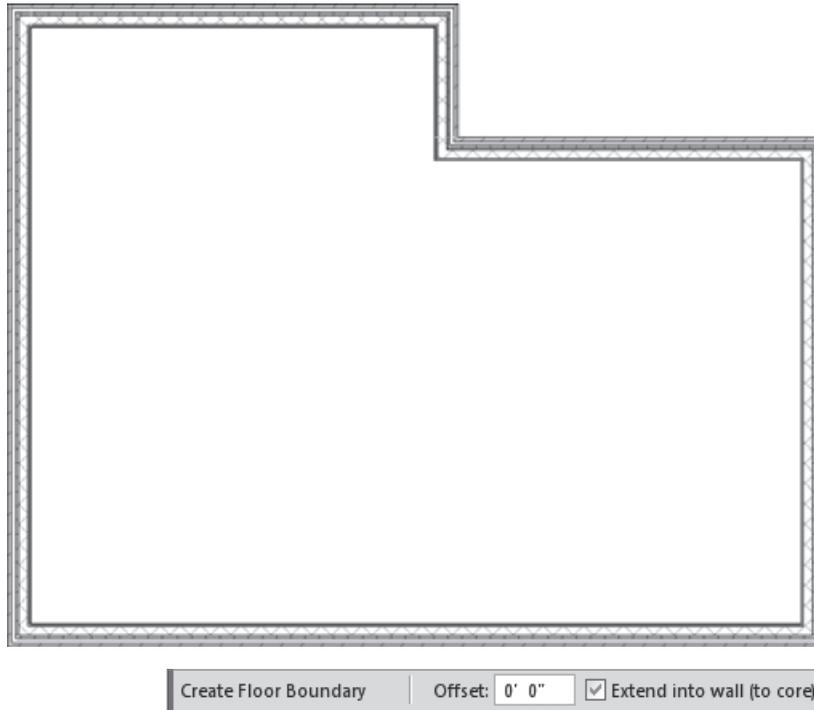

Figure 6.2
1. Open a new project, and draw a simple floor plan using the Wall tool. Select a multilayered wall type in order to understand the value of the exercise — the Brick on CMU wall type works well. Draw some walls in the shape shown in Figure 6.2.